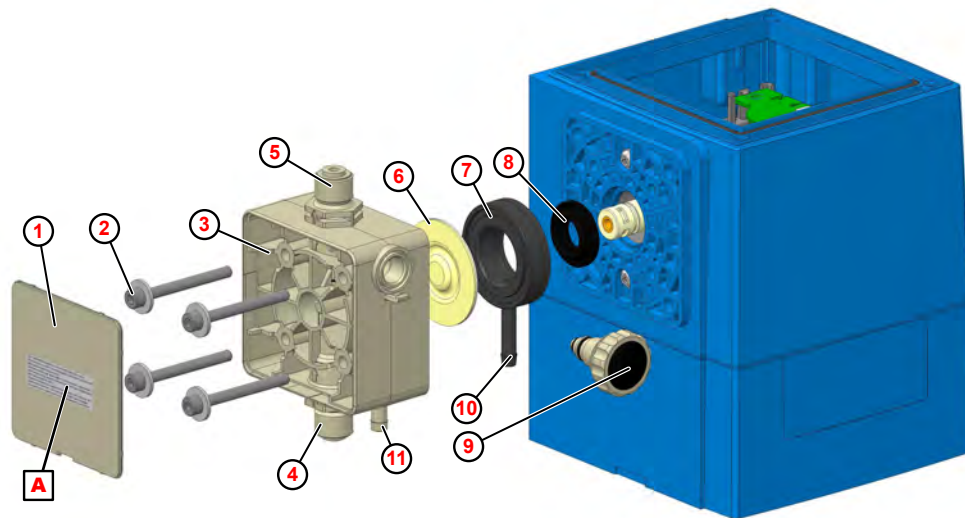

Fig. 23: Replacing the pump head, diaphragm and protective diaphragm
1. ➤ Unscrew the suction and pressure valve (Fig. 23 , ④ and ⑤).
2. ➤ Remove the venting screw ⑨ (only if changing the pump head).
3. ➤ Remove the cover plate ① on the metering head.
4. ➤ Loosen the pump head screws ② and remove.
5. ➤ Remove the pump head ③ .
6. ➤ Unscrew and remove the diaphragm ⑥ .
7. ➤ Take out the intermediate plate ⑦ .
8. ➤ Remove the protective diaphragm from the plunger ⑧ .
10. ➤ Place the intermediate plate so the venting outlet ⑩ is pointing downwards.